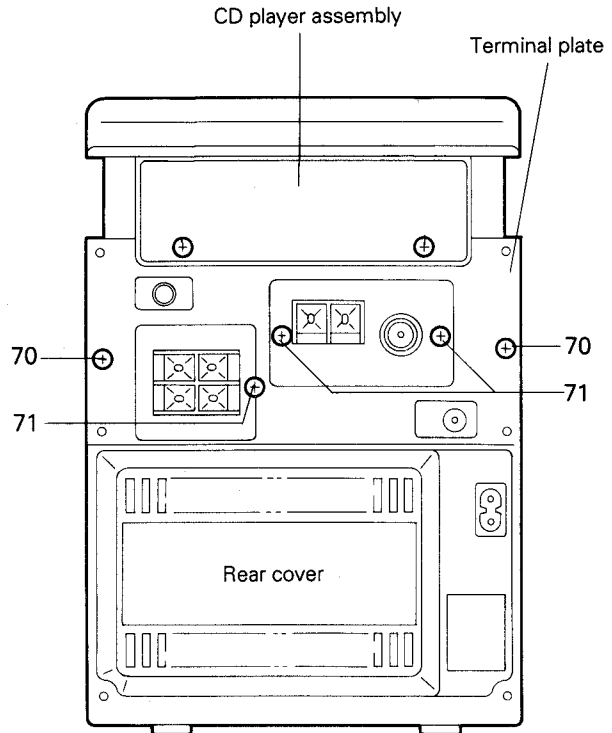

Fig. 7-9
■ **Terminal plate and Rear cover** (Fig. 7-9)
1. Remove two screws (70) retaining the terminal plate to the main unit.
2. Remove three screws (71) retaining the FM and AM antenna terminals and speaker terminal to the terminal plate.